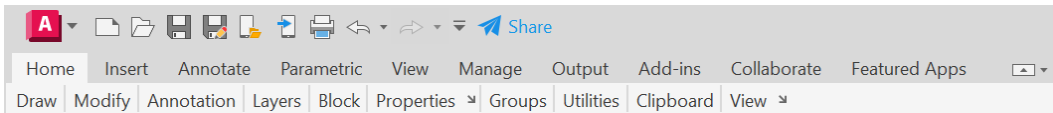

Figure 1.7: The ribbon display using Minimize to Panel Titles
- **Minimize to Panel Titles (second click):** After the second click of the ribbon settings button, you will set the ribbon to **Panel Titles**. The panels are now displayed with only their titles, thus reducing the ribbon footprint on your screen even more as seen in *Figure 1.7*.